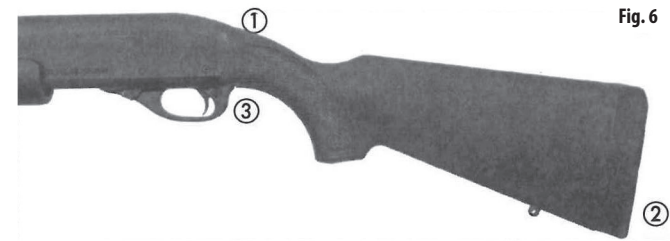

Fig. 6
4. Ensure proper installation by checking the following items (Fig. 6):